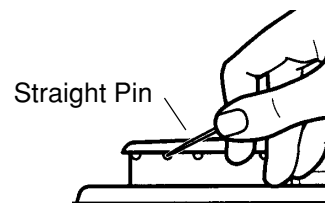

Figure 8-5
4. If the ports are clogged, clean them with a straight pin (see Figure 8-5). Do not enlarge, or distort the port. Do not use a wooden toothpick. If the burner needs to be adjusted, call a qualified technician for service.